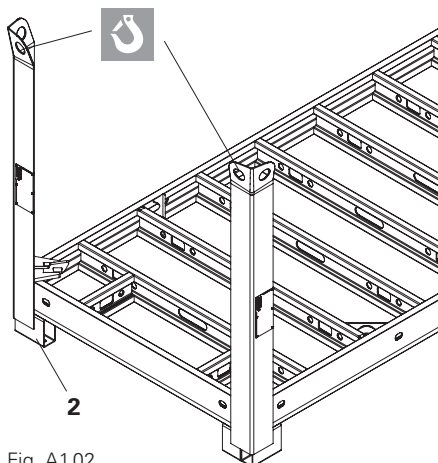

Fig. A1.02
1. Place the first panel with the formlining facing downwards on the rectangular tube (2). (Fig. A1.02)